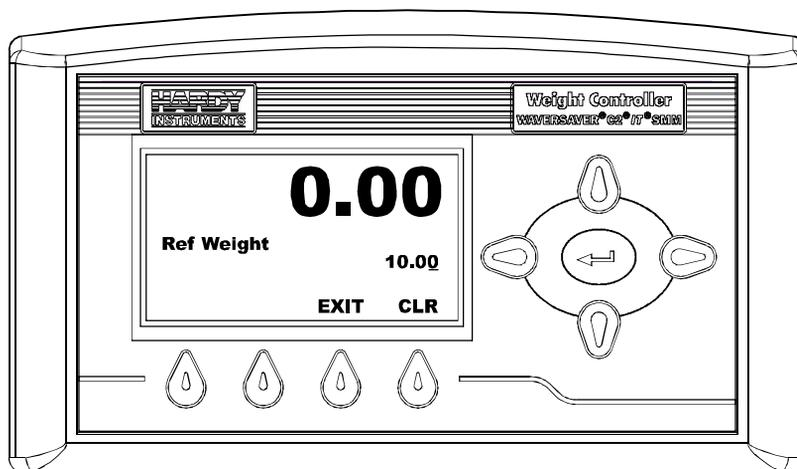

FIG. 308 REF WEIGHT MENU
Step 5. Press the Enter button. The Ref Weight Menu appears. (See Fig. 308)